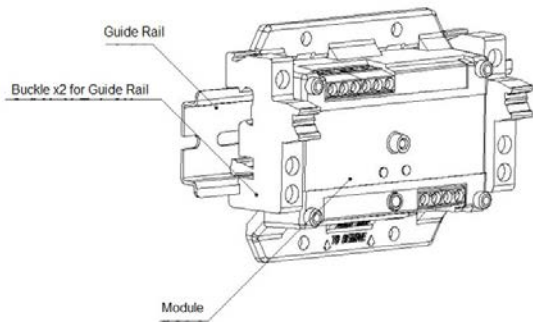

Fig. 4
- 3) The module can be mounted on a guide rail as shown on Fig 4.